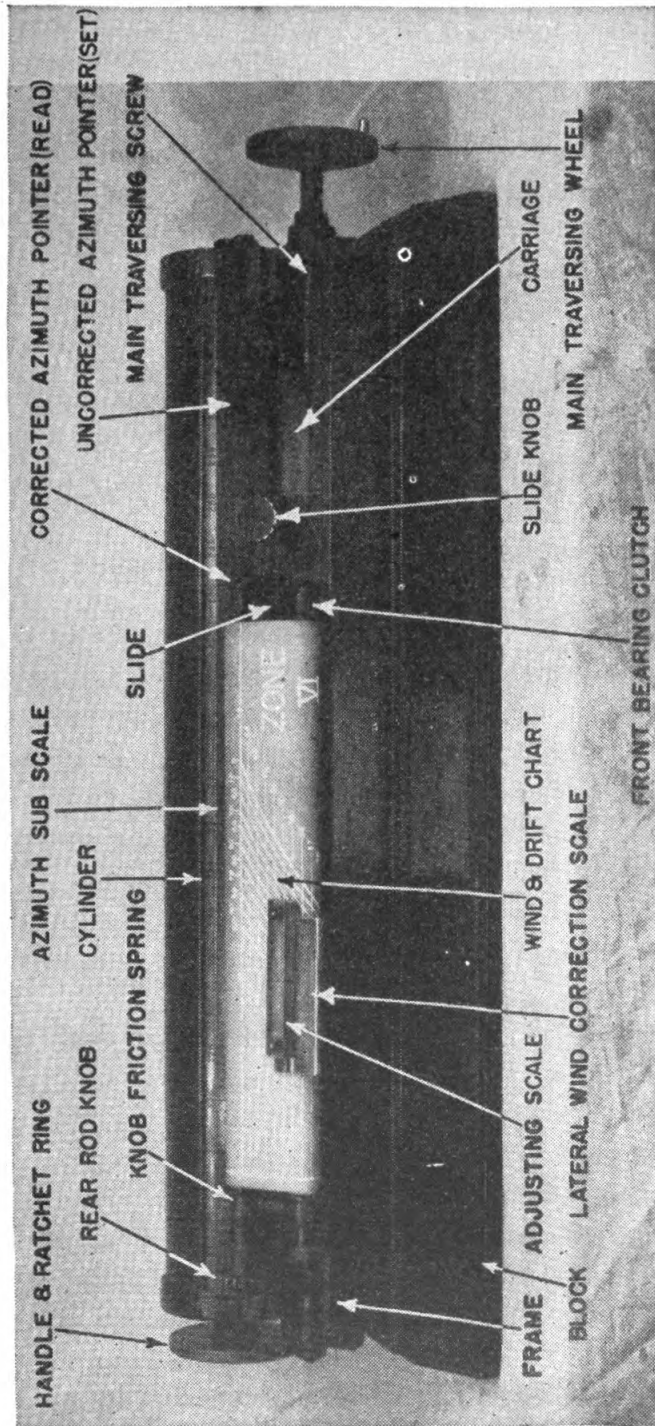

FIGURE 53.—Mortar deflection board M1906.
(1) Set the wind arm at normal of wind scale.
(2) Set zero range on drift scale.
(3) Set T-square at normal of deflection scale and clamp to platen.
(4) Set the last three figures of set-forward point azimuth on azimuth correction scale opposite the normal of the deflection scale.
(5) Set the wind arm to the wind deflection reference number and move the platen by means of the handwheel until the leaf intersects the wind arm at the corrected range to the set-forward point.
(6) Read the last three figures of corrected azimuth of the set-forward point on the azimuth correction scale under the bevel edge of the T-square.
(7) Set the azimuth of the new set-forward point on the azimuth correction scale opposite the normal of the deflection scale.
(8) Move the platen by means of the handwheel until the range scale on the leaf intersects the wind arm at the corrected range of the new set-forward point, and read the last three figures of the corrected azimuth of the set-forward point under the bevel edge of the T-square.
(9) Repeat (6), (7), and (8) for each set-forward point.
b. Mortar deflection board M1906.—Q. Point out and state the purpose of each of the parts shown in figure 53. *A.* See figure 53.
(1) Bring the "Read" and "Set" pointers of the board to the same azimuth reading.
(2) Bring adjusting and lateral wind-correction scales to normal of 3.00.
(3) Fasten the deflection chart to rollers so that the zero deflection line falls immediately beneath the normal of the adjusting scale.
Q. Explain the operation of the board. *A.* (1) Unless otherwise ordered, set the lower index of the adjusting scale to the normal of the lateral wind-correction scale. Turn the handle and ratchet ring until the proper degree on the cylinder is brought into view, and set the uncorrected azimuth pointer marked "Set" to the uncorrected azimuth of the set-forward point as called out by the plotter. Turn the rear rod knob until the horizontal line representing the corrected elevation, obtained from the percentage corrector, coincides with the fiducial edge of the adjusting scale. Turn the slide knob until the arrow of the adjusting scale points to the proper curve representing the cross-wind component reference number, as obtained from the wind-component indicator. Read the corrected azimuth of the set-forward point under the "read" pointer. As changes occur, move the chart to the new corrected elevation and the arrow to the new cross-wind reference number.